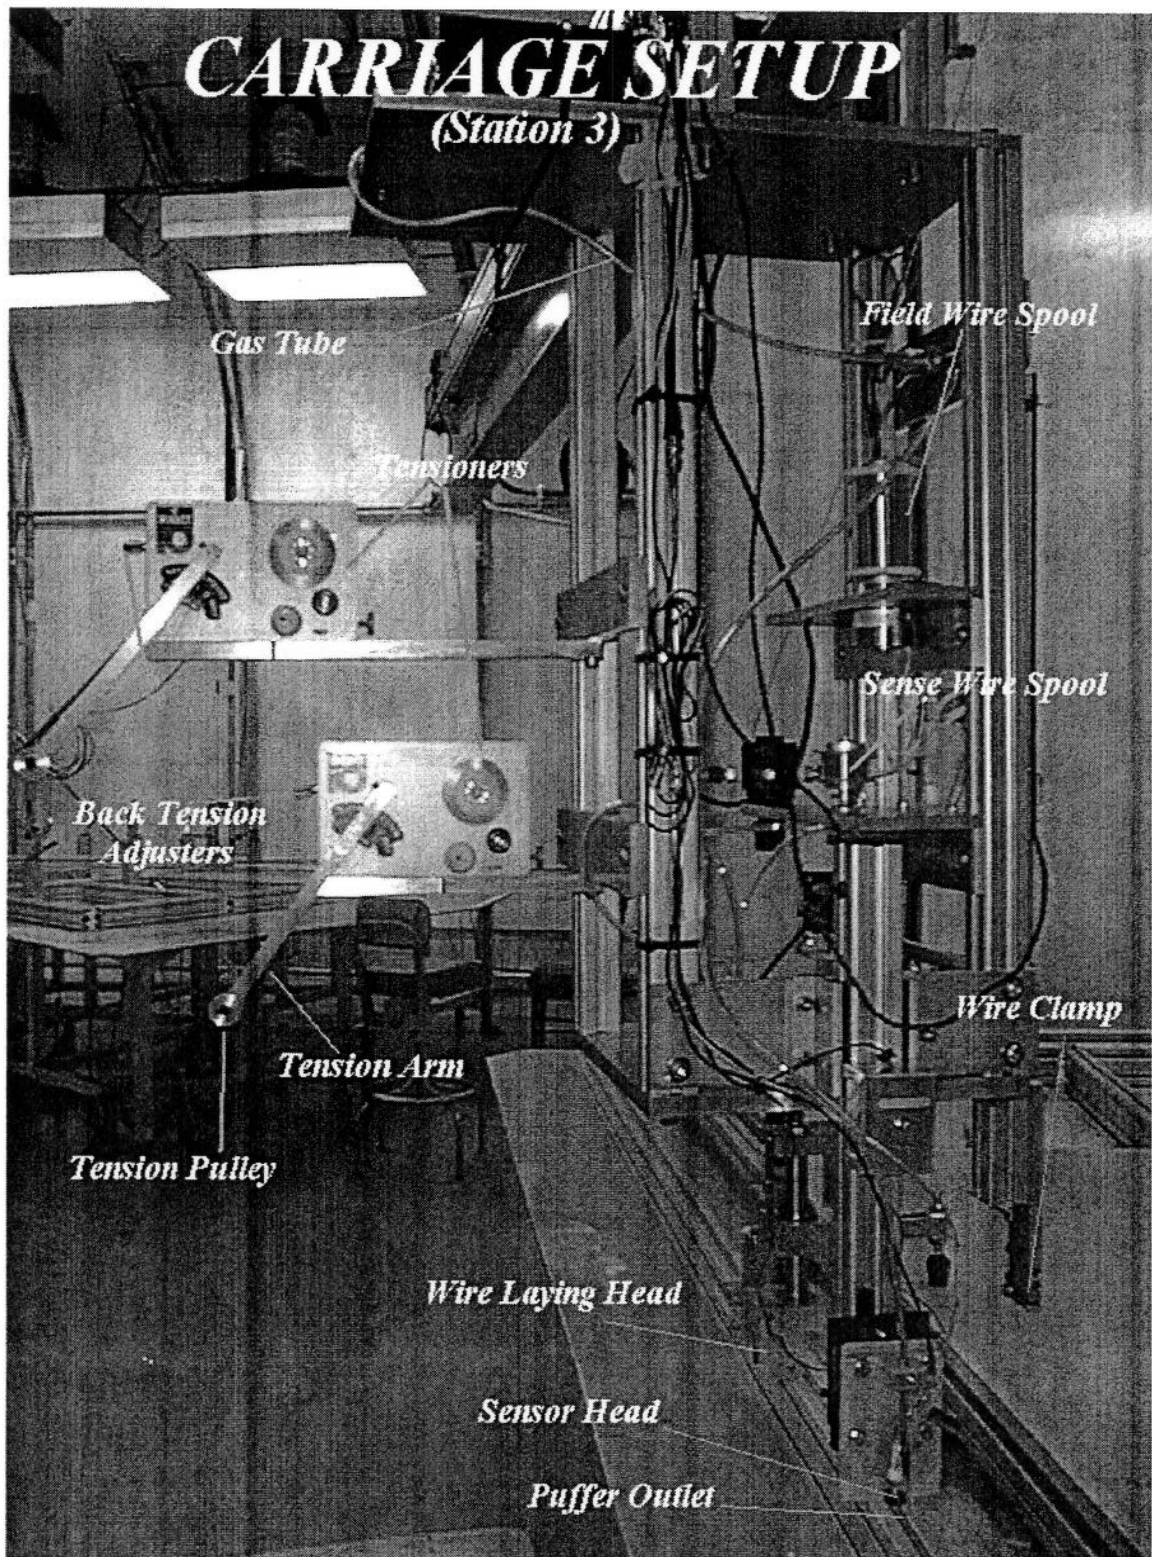

Figure 4 (Carriage Setup for Station 3)
- 7.2.2. The wire should then be laid over the white tensioning spool, and over the pulley at the end of the tensioner (figure 4).